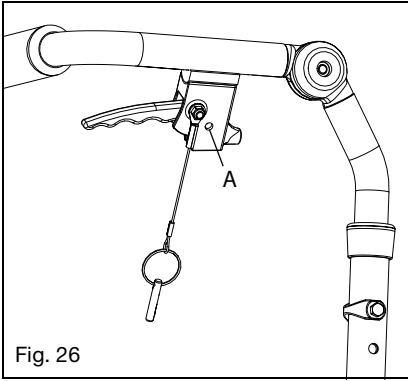

Fig. 26
- a. Determine which style back canes and trigger were provided with the chair by checking the images in Fig. 26 & 27.
- c. Insert the pin, attached to the trigger by a lanyard, into the hand trigger hole (Fig. 26:A & 27:A).